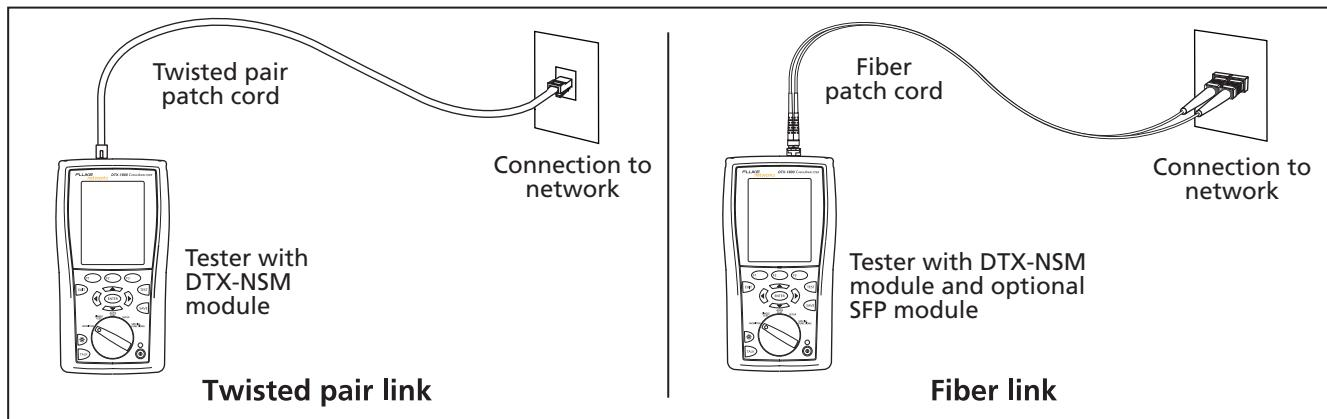

Figure 24. Network Test Connections
- 2 Connect to the network as shown in Figure 24.
- 1 Turn on the tester; then connect to the network as shown in Figure 24 on page 45.
- 1 Connect to the network as shown in Figure 24 on page 45.